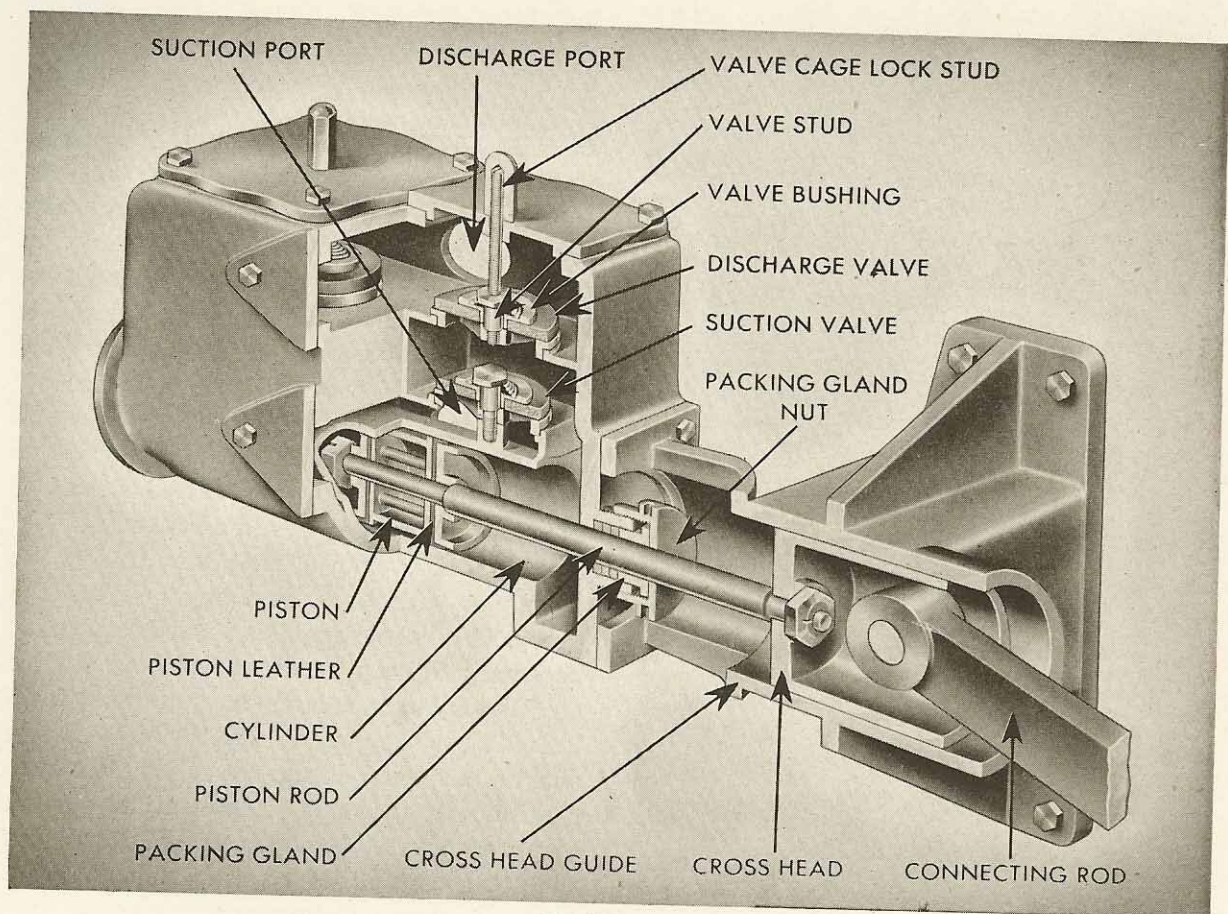

FIGURE 3-3
5. RECIPROCATING RAW-WATER CIRCULATING PUMP: The pump shown in Figure 3-3 is used on an Atlas engine intended for a raw-water system and is called a reciprocating pump because the piston moves back